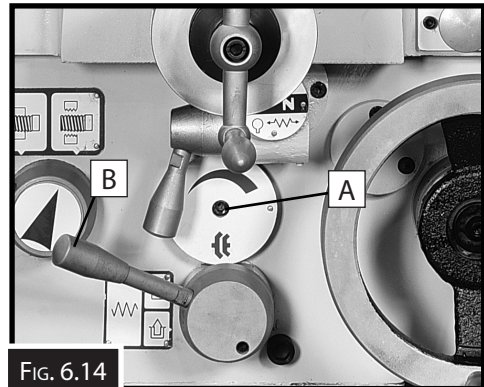

FIG. 6.14
1. With a 5mm hex wrench, turn the center cap screw ("A" in Fig. 6.14) clockwise to increase the clutch holding power, and turn counterclockwise to decrease the amount of clutch holding power.
3. Engage the power feed ("B" in Fig. 6.14) and hold the longitudinal feed handwheel with one hand. The clutch should release within a few seconds without much pressure of handwheel rotation. This holding force is approximately 12 kgs.